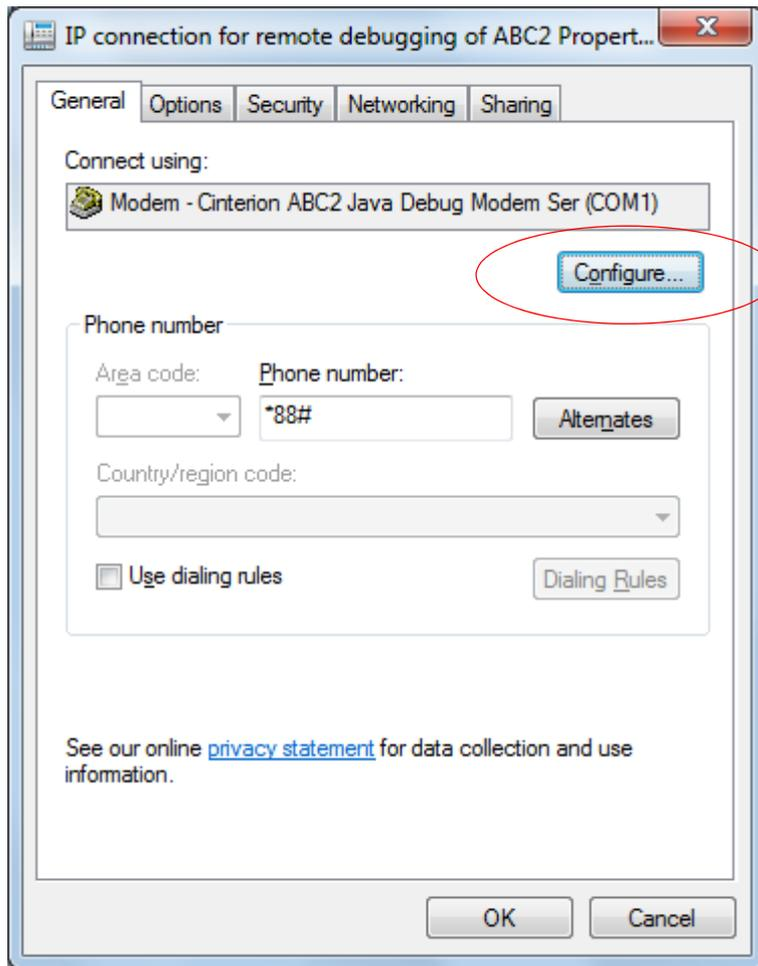
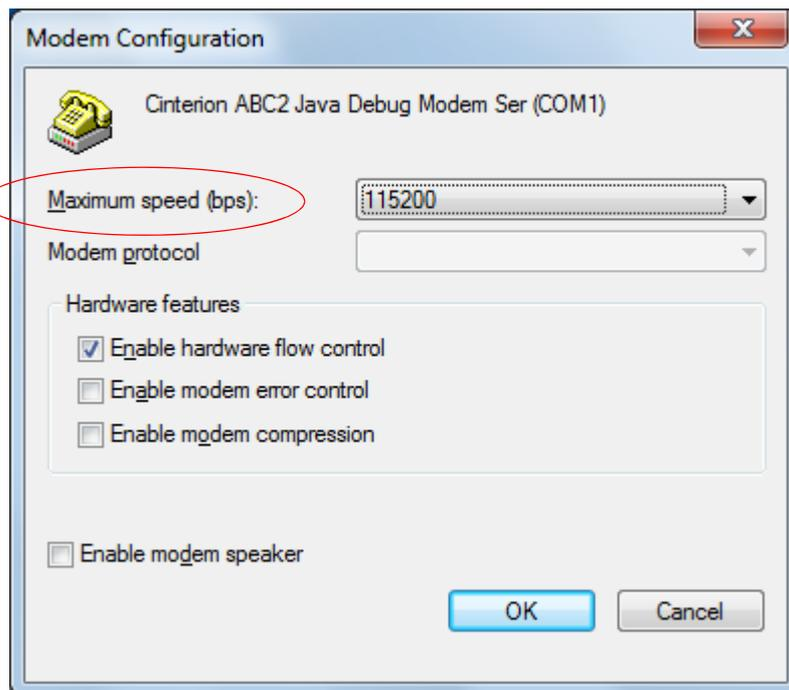

Figure 26: Configure debug connection
Figure 27: Specify baud rate for debug connection
- Then the baud rate used by the debug connection "IP connection for remote debugging of ABC2" must be set to exactly the same value. The properties of the debug connection are available via the Windows network connection settings (see Figure 26 and Figure 27).